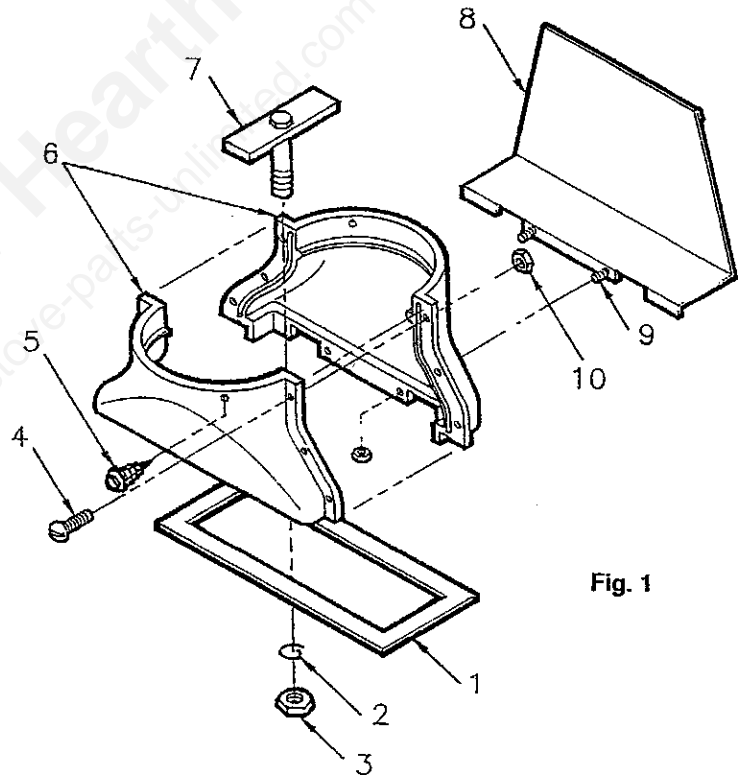
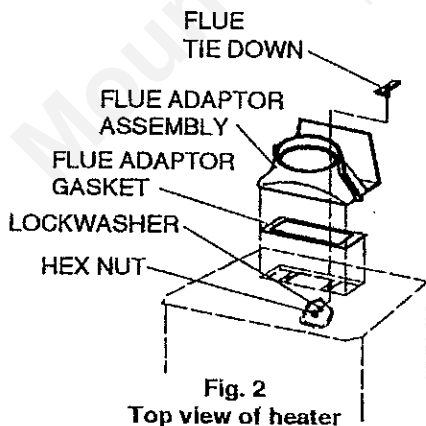

Fig. 1
Fig. 2
2. Attach flue adapter shield to one of the two flue adapter halves using (2) of the #10 lockwashers and the #10-24 nuts provided. (See figure 1.)
3. Secure the flue adapter halves together at the flanges with the six (6) #10-24x1 (black) round head machine screws, lockwashers, and hex nuts provided.
4. Place flue gasket on flue adapter and install assembly into flue as shown in figure 2.